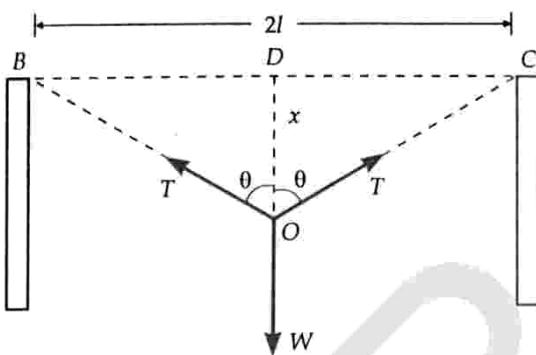

Fig. 9.37
**Ans.** The situation is shown in Fig. 9.37. The increase in length of the wire when it is pulled down into shape BOC is